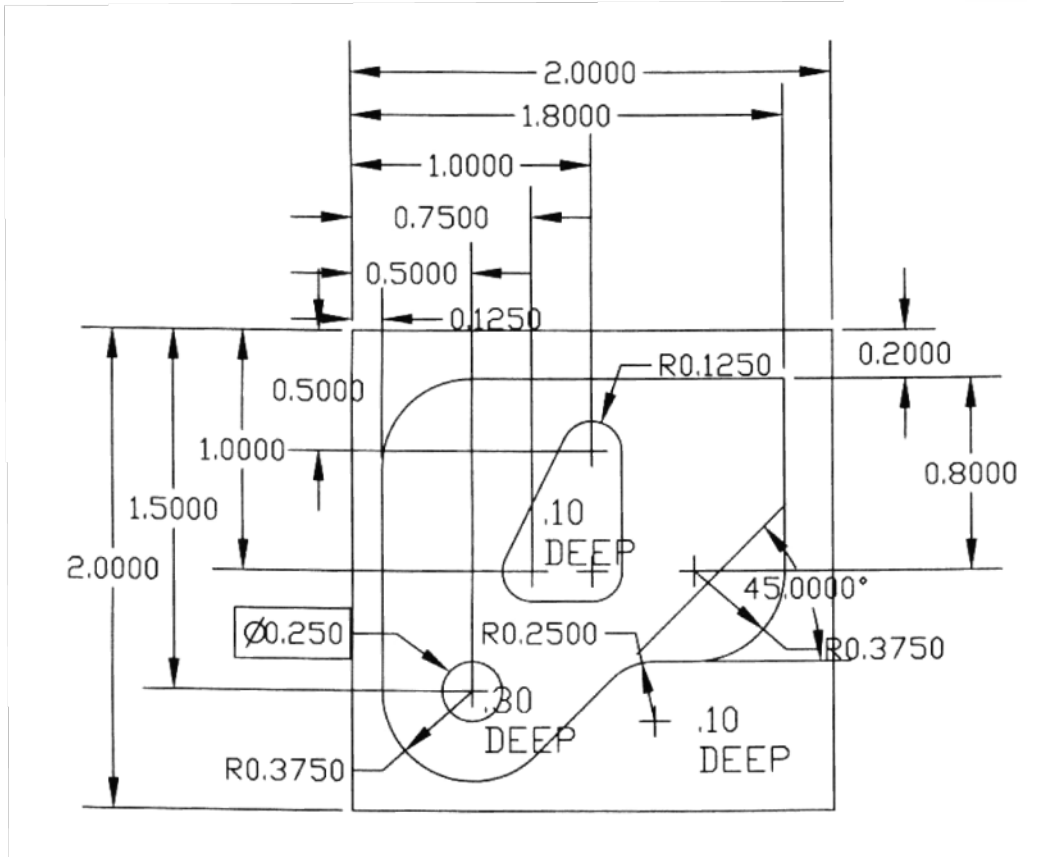

Figure 1: Part dimensions for CNC milling.
This week's laboratory assignment involves using the CAM software (Mastercam 2022) to create a part program for the part shown in Figure 1, post-processing the program and running it on the Tormach 770M CNC milling machine.
1. Using the Mastercam manual (if necessary), create a part program for the part shown in Figure 1. Use Tormach VMC Machine type before defining tool paths. There are three features on this part: middle island generation, pocketing, and drilling (use chip break cycle for drilling). The workpiece is Aluminum 6061-T6 and the dimension is 2 inches (w) by 2 inches (d) and 0.5 inches (h) in size. Use the following cutting conditions: